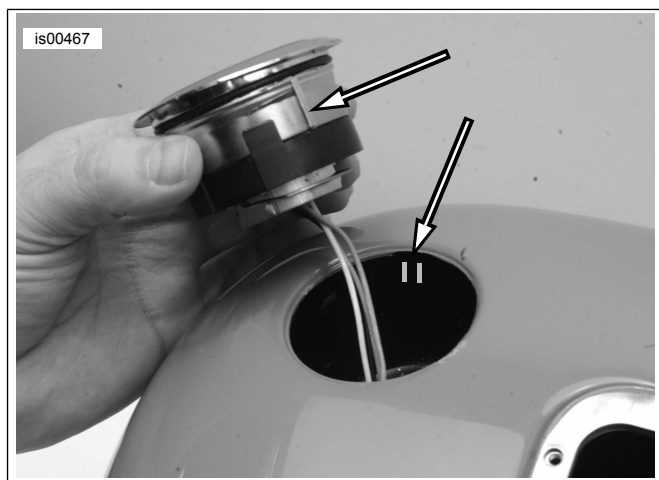
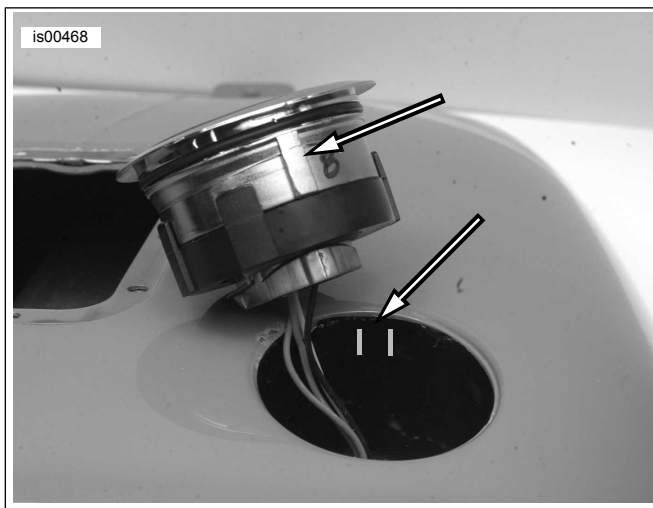

Figure 5. Align Narrow Tab with Front Tabs in Fuel Tank Cup
Figure 6. Align Wide Tab with Rear Tabs in Fuel Tank Cup
5. See Figure 5 and Figure 6. Insert LED fuel gauge in the fuel tank cup.